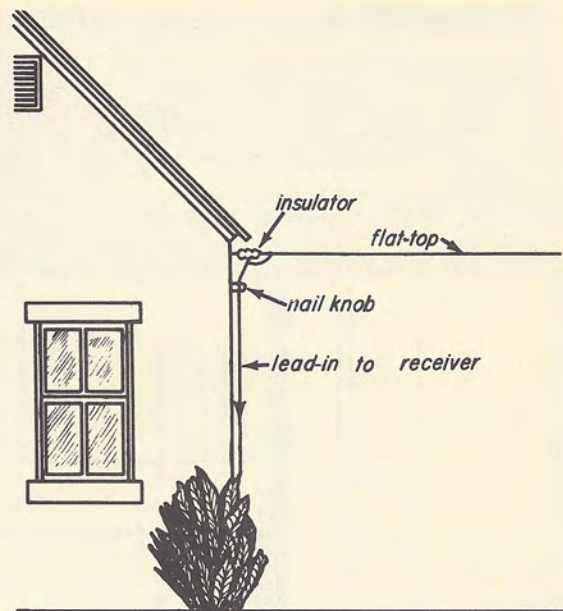

Fig. 5-12
Step 10. With a porcelain nail knob, fasten the lead-in to the side of the house near the roof, as shown in Fig. 5-12. Leave a little slack between the nail knob and the flat-top so that the connection will not be broken during a storm.